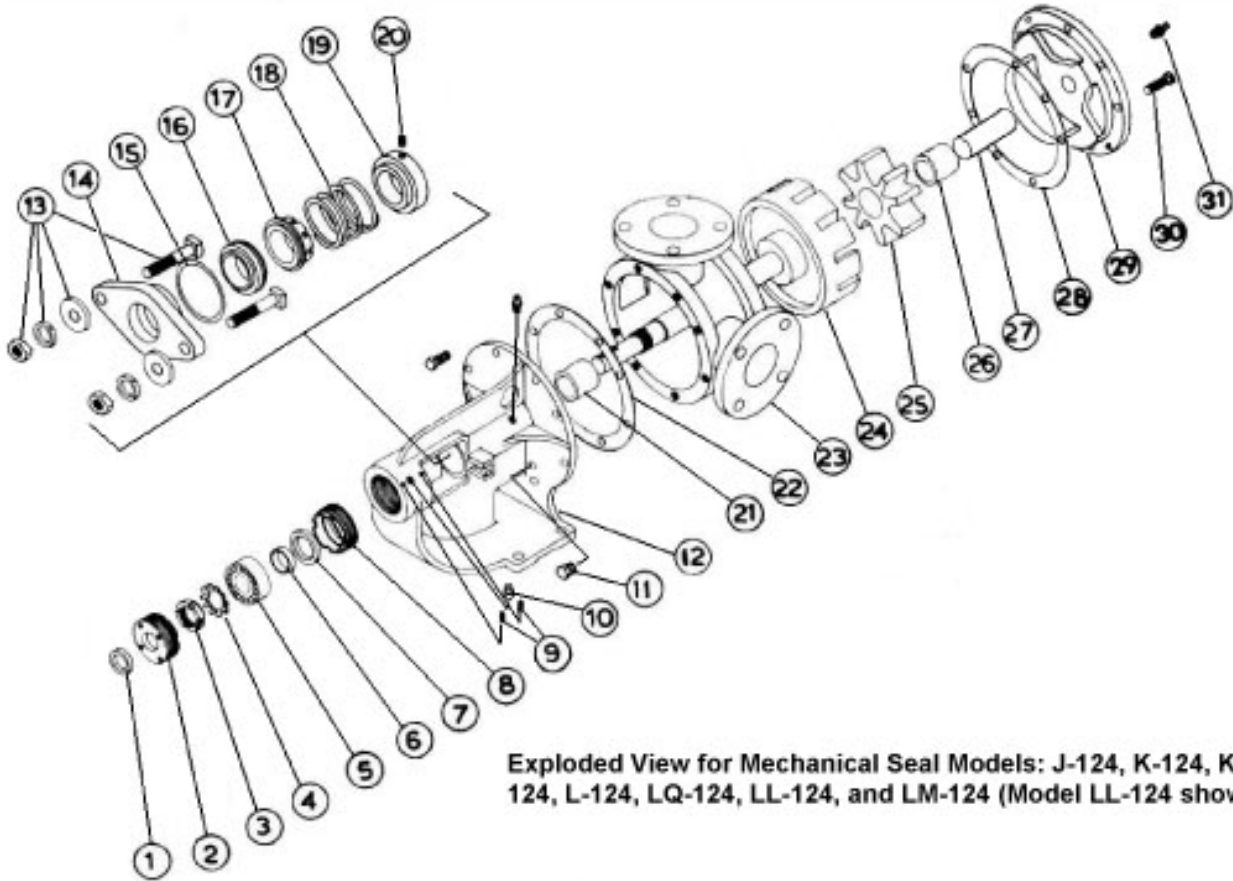

Figure 12, Gland & shaft installed
6. Install packing gland, cap screws and nuts. Make sure the gland is installed square and nuts are loosely assembled. Figure 12. Refer to "Packing Adjustment" page 2 after the pump is assembled and installed.